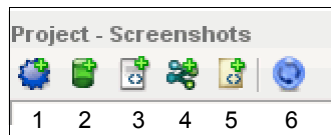

Figure 3-12 A magnified view of the Project toolbox tab icons
Figure 3-12 shows a view of the icons at the top of this tab. The four icons at the top left of the tab allow the creation of new orchestrations (1), endpoints (2), flat file schemas (3), and standalone maps (or transformations) (4) respectively. The fifth icon is Add Document (5) and gives options to import flat file schemas, WSDLs, XML schemas, and stylesheets (XSLTs) into the project. Finally, the right icon (6) revalidates the project. Project validation is discussed in 3.12, “Unit testing” on page 159.